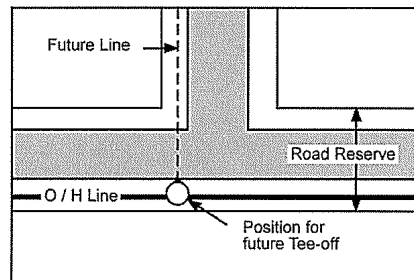

Figure 1: Consideration of future requirements
- 3) **Future extensions:** In order to minimise future costs, consideration should be given to the likelihood/possibility of extensions to the existing/proposed distribution network (e.g. requirements for "tee-offs", ground/aerial stays etc). See Figure 1.